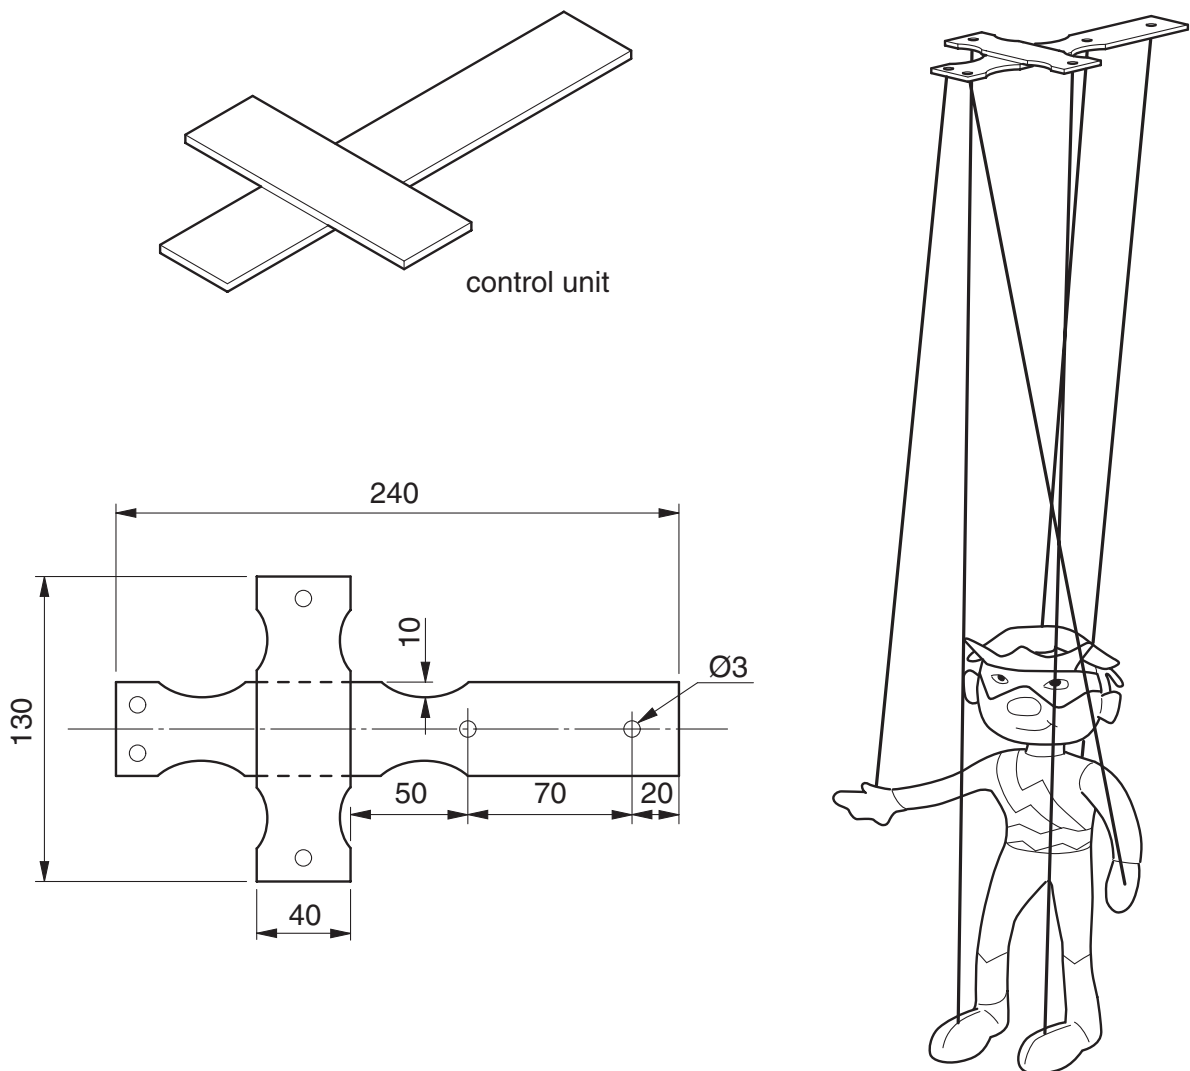

Fig. 6
- 14 Fig. 6 shows details of a control unit for a string puppet that is made up from **two** parts joined together.